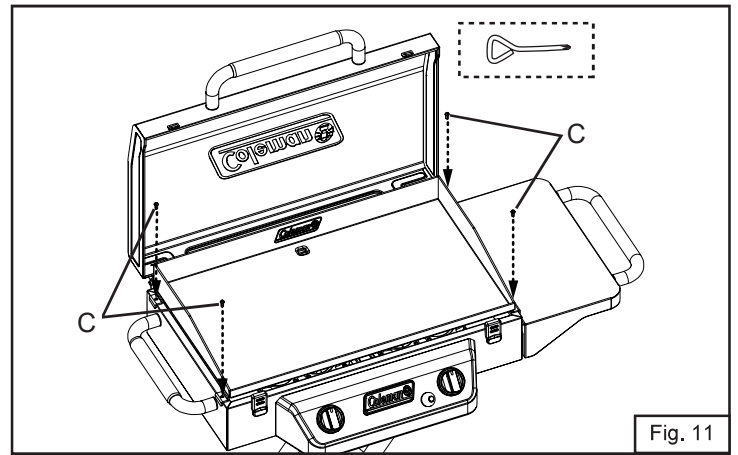

Fig. 11
11. Turn the screws clockwise to secure the griddle (Fig. 11).